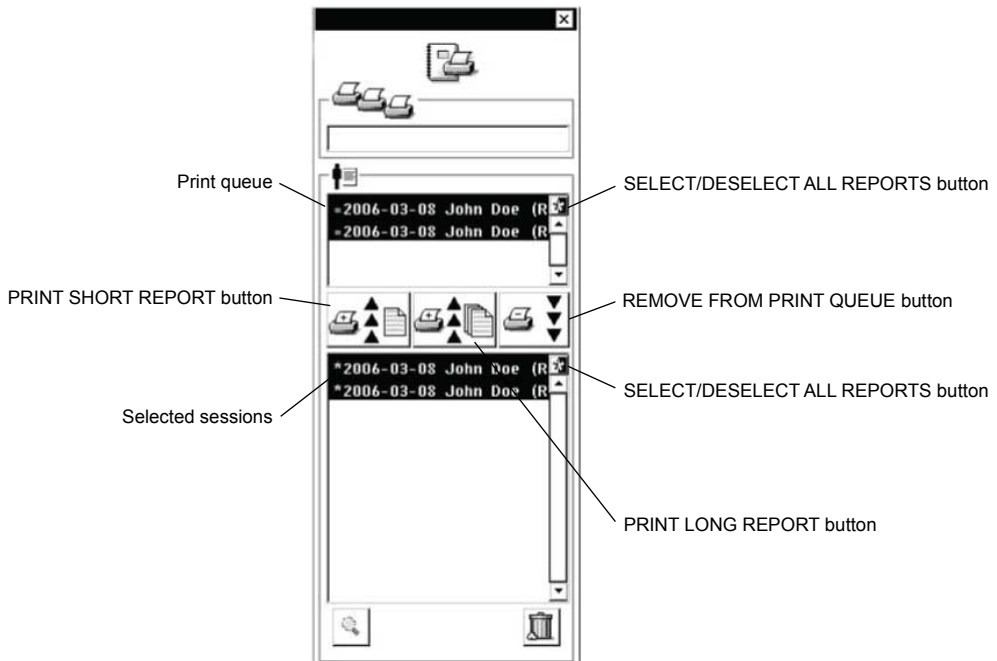

Figure 45. SESSION DATA MANAGER screen.
5. Select the SESSION DATA MANAGER button () from the slider bar. The SESSION DATA MANAGER screen appears (Figure 45).